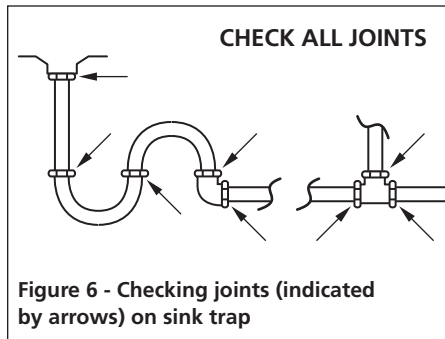

Figure 6 - Checking joints (indicated by arrows) on sink trap
12. Sink traps are usually connected together using gaskets of rubber or other soft material. The gaskets are compressed at the joints with large compression nuts, preventing leaks. Occasionally a leak may develop around such connections. Check traps after using the drain cleaner and tighten up any joint found to be leaking (see Figure 6).